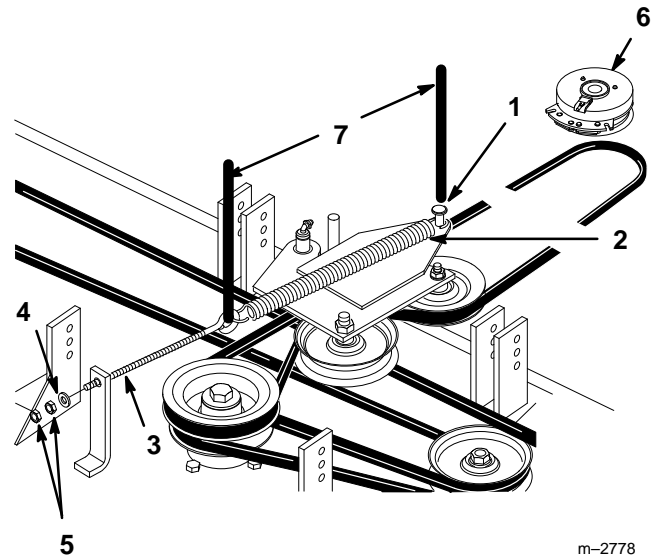

Figure 5
10. Hook spring over pin on idler plate and loosely mount to mower with eye bolt, 3/8" washer and (2) 3/8" jam nuts (Fig. 5).
11. Tension the drive belt by tightening the front jam nut on eyebolt until the spring is 16-1/2" (41.9 cm). Measure the spring length between the pin and the eyebolt (Fig. 5).
12. Tighten the jam nuts (Fig. 5).